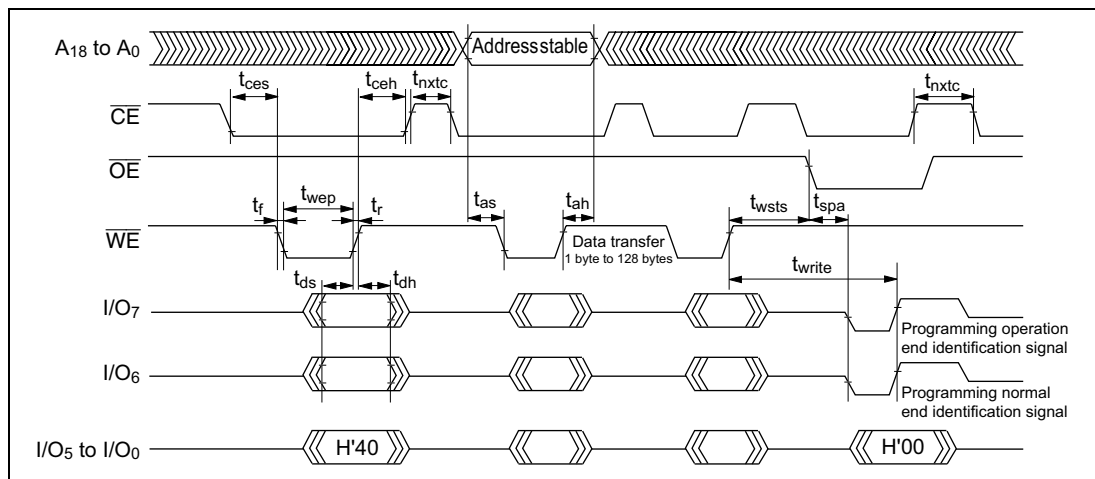

Figure 17-56 Auto-Program Mode Timing Waveforms
- Memory address transfer is executed in the second cycle (figure 17-56). Do not perform transfer later than the second cycle.